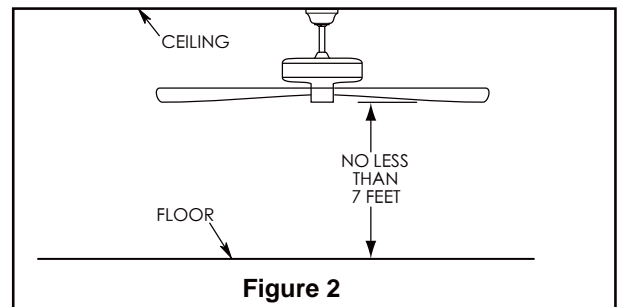
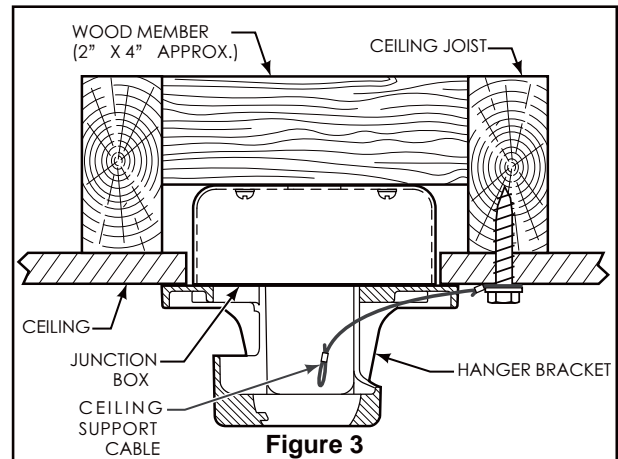

Figure 2
Figure 3
Your new ceiling fan will require a grounded electrical supply line of 120 volts AC, 60 HZ, 15 Amp Circuit. Electrical code requires use of a fan-rated outlet box to support the extra weight and motion associated with a ceiling fan. A fan-rated box will be labeled as such and typically supports up to a 70lb ceiling fan. Fan-Rated Outlet Boxes vary in ratings and design. Ensure the ratings of your ceiling fan outlet box meet the requirements for the ceiling fan being installed. Figure 1, Figure 2 and Figure 3 depicts different structural configurations that may be used for mounting the outlet box.
Deep box (Figure 2)
Deep box with brace (Figure 3)
2. The fan comes with blue, black, and white 54" wires. Separate and untwist the three wires. Route the wires through the downrod. (Figure 2)
3. Loosen the two setscrews in the downrod support. Align the clevis pin holes in the downrod with the holes in the downrod support. Install the clevis pin and secure with the hairpin clip. Be sure to push the straight leg of the hairpin clip through the hole near the end of the clevis pin until the curved portion of the hairpin clip snaps around the clevis pin. The hairpin clip must be properly installed to prevent the clevis pin from working loose. Pull on the downrod to make sure the clevis pin is properly installed. (Figure 3)
The fan must be hung with at least 7' of clearance from floor to blades. (Figure 2)
1. Using the 3/8" x 2" lag bolt and flat washer, attach safety cable to ceiling joist or wood structural member. The lag bolt will pass through the flat washer, safety cable loop, and into the building structure (Figure 3). You will first drill a 1/4" pilot hole into the building structure to prevent splitting or cracking.
NOTE: Ceiling support cable cannot be secured to junction box only, it must be directly secured to ceiling joist or structural member using the 3/8" x 2" lag bolt and flat washer. (Figure 3)
- 2. Disassemble switch cup support cover from cover switch cup assembly removing three screws. (Figure 2)
3. Remove one of the three screws in the support bracket. Attach the switch cup support cover to the support flange by rotating plate and properly positioning screws in key slots. Install third screw in remaining hole. Fully tighten all three screws. (Figure 3)